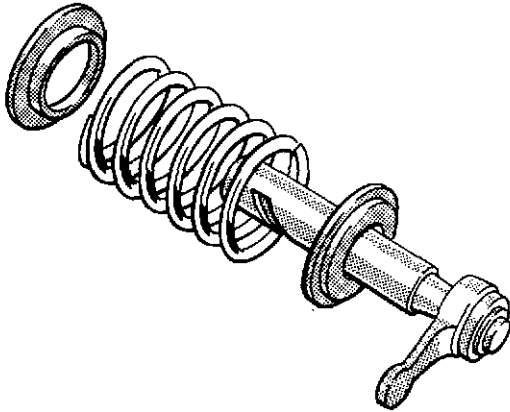

Fig. 11 Plunger assembly
- 15 Withdraw each plunger, complete with its spring and upper and lower spring plates (fig. 11).